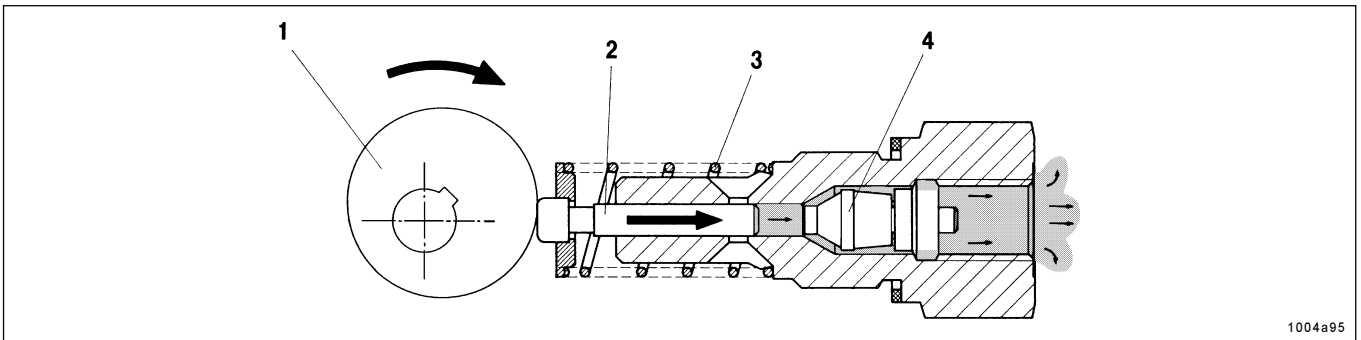

Fig. 8 - The pump element dispenses lubricant
- piston 2 dispenses the lubricant to the connected lubrication points via the metering devices, see fig. 8.